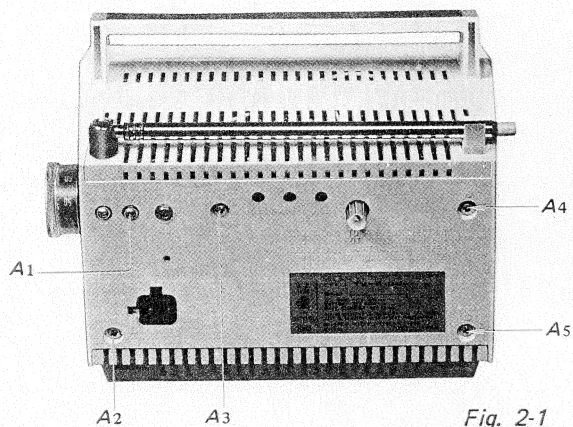

Fig. 2-1
1. Remove the five screws labeled A1–A5 in Fig. 2-1.